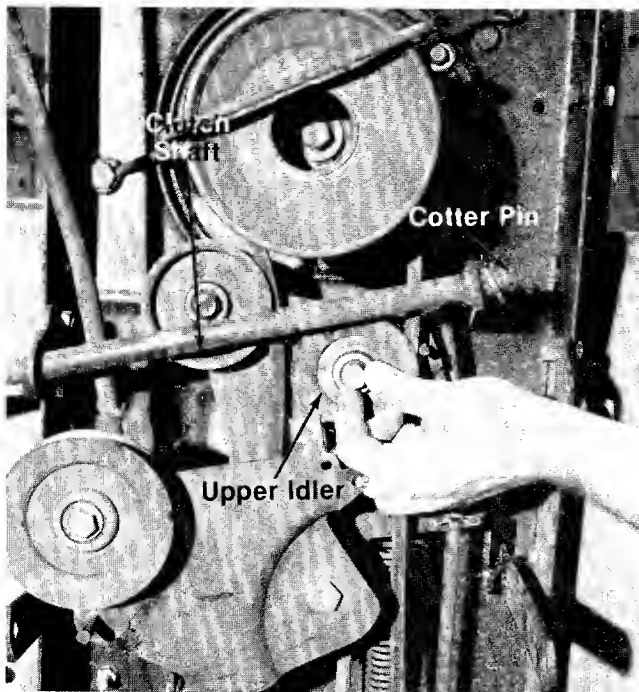

FIGURE 26.
7. Remove the cotter pin from the clutch shaft and pull it out of the bracket. (See figure 26.)